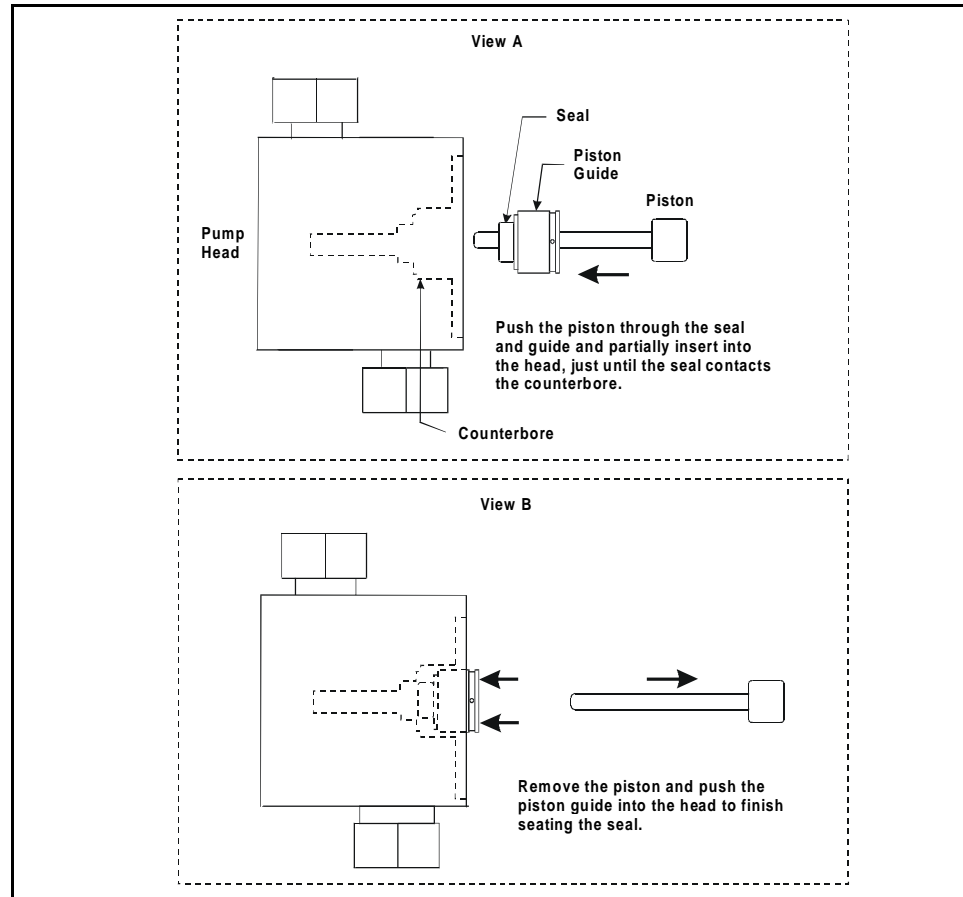

Figure D-3. Installing the Piston Seal
- a. Push the piston through the piston guide and the seal. Then insert the piston, piston guide, and seal into the pump head until the seal makes contact with the bottom of the counterbore (see Figure D-3, View A).
- b. Hold the piston guide and seal in place and remove the piston from the head (see Figure D-3, View B).